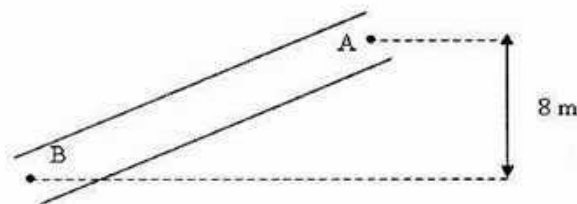

Figure 1
- (c) In figure 1, the pipe AB is of uniform diameter. The pressure at A is  $150 \text{ kN/m}^2$  and at B is  $250 \text{ kN/m}^2$ . If a crude oil ( $S = 0.85$ ) is flowing through the pipe; determine the direction of flow and head loss. 9